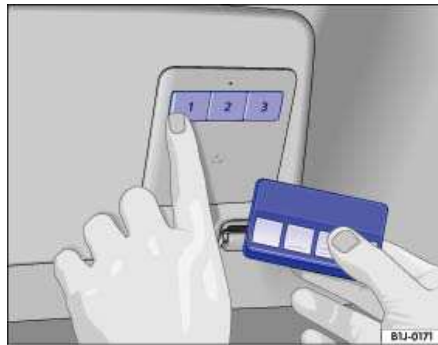

Fig. 42 To program: Simultaneously press the buttons for the HomeLink Universal Transmitter and the remote control.
3. Using both hands, simultaneously press and hold both the HomeLink button you want to program (**1**, **2**, or **3**) and the hand-held transmitter button, as shown ⇒ fig. 42. **Do not release the buttons until the HomeLink indicator light flashes slowly and then rapidly.** When the indicator light flashes rapidly, release both buttons. The rapid flashing indicates successful programming.